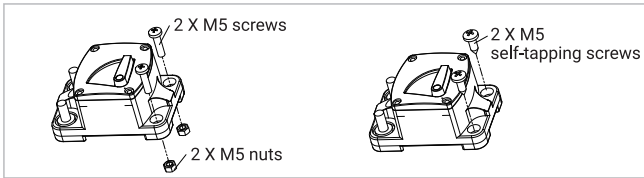

Figure 2-3
1. Secure the circuit breaker: Use 3 M5 self-tapping screws, or 3 sets of M5 screws with M5 nuts, to secure the circuit breaker in the designated position, as shown in Figure 2-3;